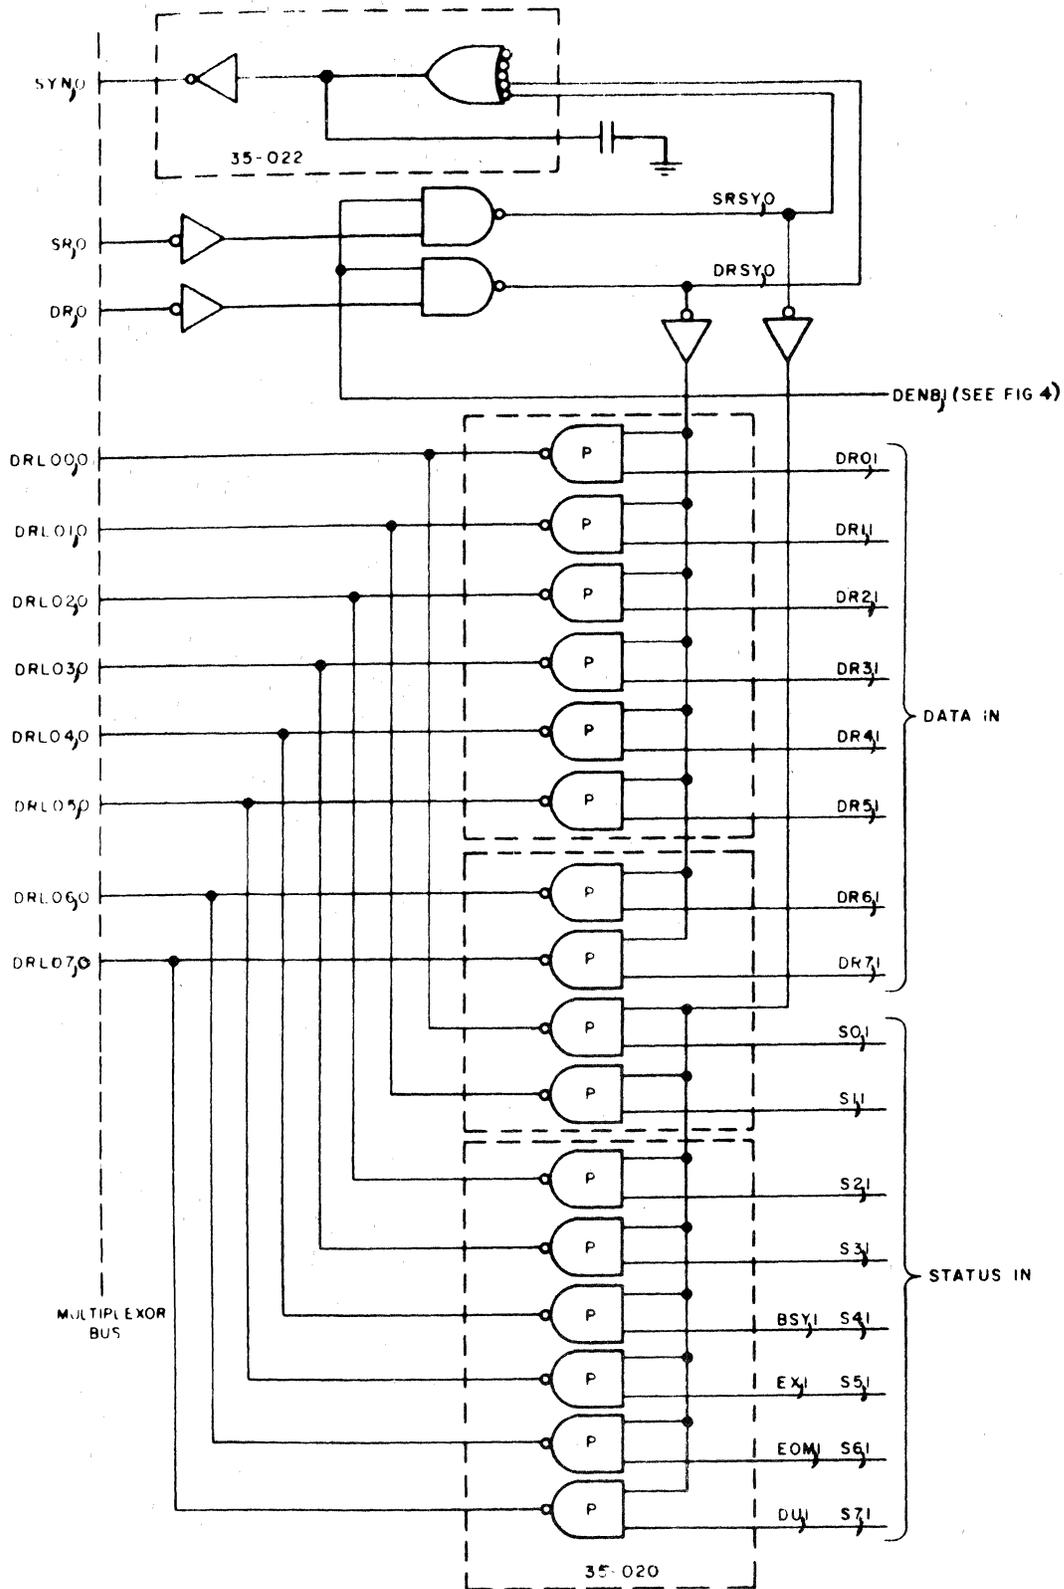

Figure 5. Data and Status Input, Logic Diagram
Figure 5 shows how a byte of data status may be read into the Processor from the Device Controller. When the device is addressed, DENB1 is high, enabling the Status Request (SR) or Data Request (DR) control line. The SR or DR control line, in turn, enables the status or data bytes onto the Data Request Lines (DRL00 through DRL70). The Model 35-020 daughter-board provides a convenient means of OR tying multiple data sources onto the DRL lines. Each of the control lines automatically generates a return sync signal SRSY0 or DRSY0. The Device Controller logic places a high on BSY1 until the data is ready and settled on the Data Request lines (DR010 through DR070). The Processor may now be synchronized to the device data rate by executing Sense Status instructions and branch looping on Busy until the Busy bit is low. Then, when the Busy bit is low, the program may execute a Read Data instruction. Device Synchronization can also be achieved by generating an interrupt when the data is ready.